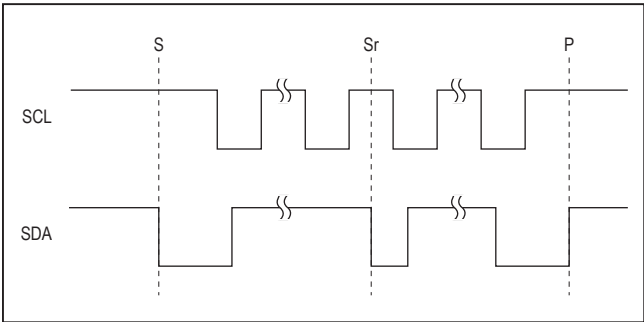

Figure 6. I²C START, STOP and REPEATED START Conditions
When writing to the MAX14745 using I²C, the master sends a START condition (S) followed by the MAX14745 I²C address. After the address, the master sends the register address of the register that is to be programmed. The master then ends communication by issuing a STOP condition (P) to relinquish control of the bus, or a REPEATED START condition (Sr) to communicate to another I²C slave. See Figure 6.